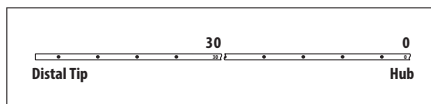

Figure 3
- Catheters provided with a blunt tip are single-marked with the length of catheter that remains (refer to Figure 3).